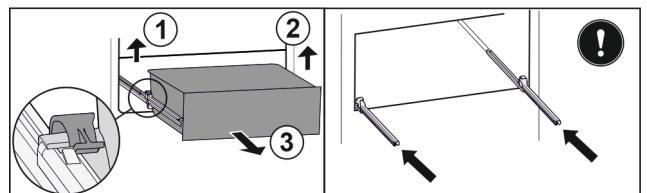

Fig. 143
- Lift left clamp and simultaneously pull drawer forwards on the left. Fig. 143 (1)
- Lift right clamp and simultaneously pull drawer forwards on the right. Fig. 143 (2)
- Remove drawer to the front. *Fig. 143 (3)*